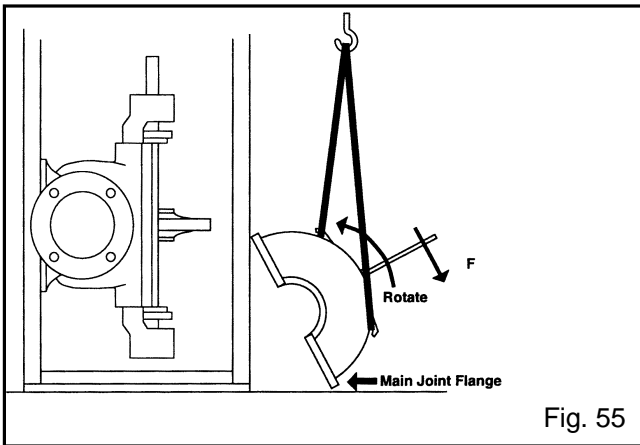

Fig. 55
10. Balancing the upper half with the stabilizer bar, lower the top half to the ground allowing the upper half to rotate so that its main joint flange sets on the ground. (See Fig. 55)
26. Sling around lifting ears and with stabilizer bar installed, pick casing upper half off the ground and rotate top half so that main joint flange is vertical. (Reference Fig. 55 with rotation in opposite direction shown.)